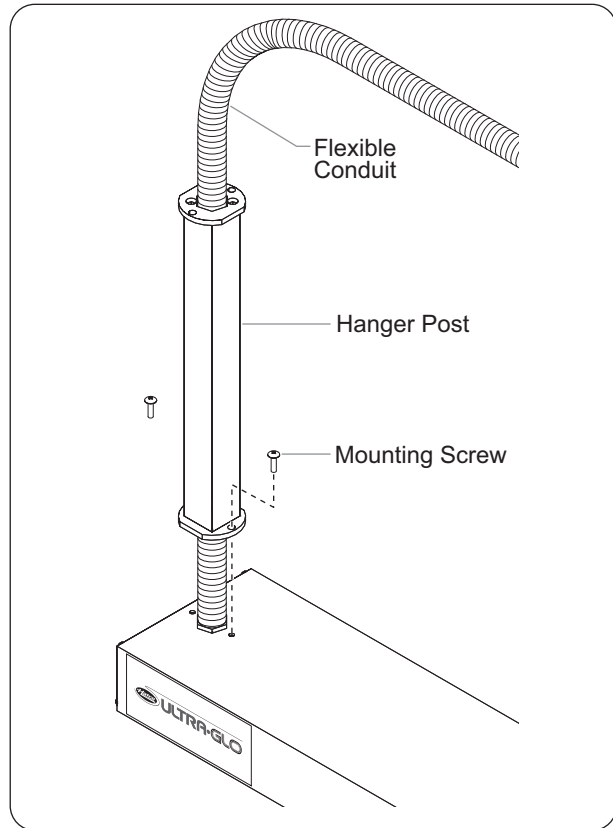

Figure 16. Hanger Post Mounting
3. If applicable, route the flexible conduit through the center of one of the hanger posts (see Figure 16).